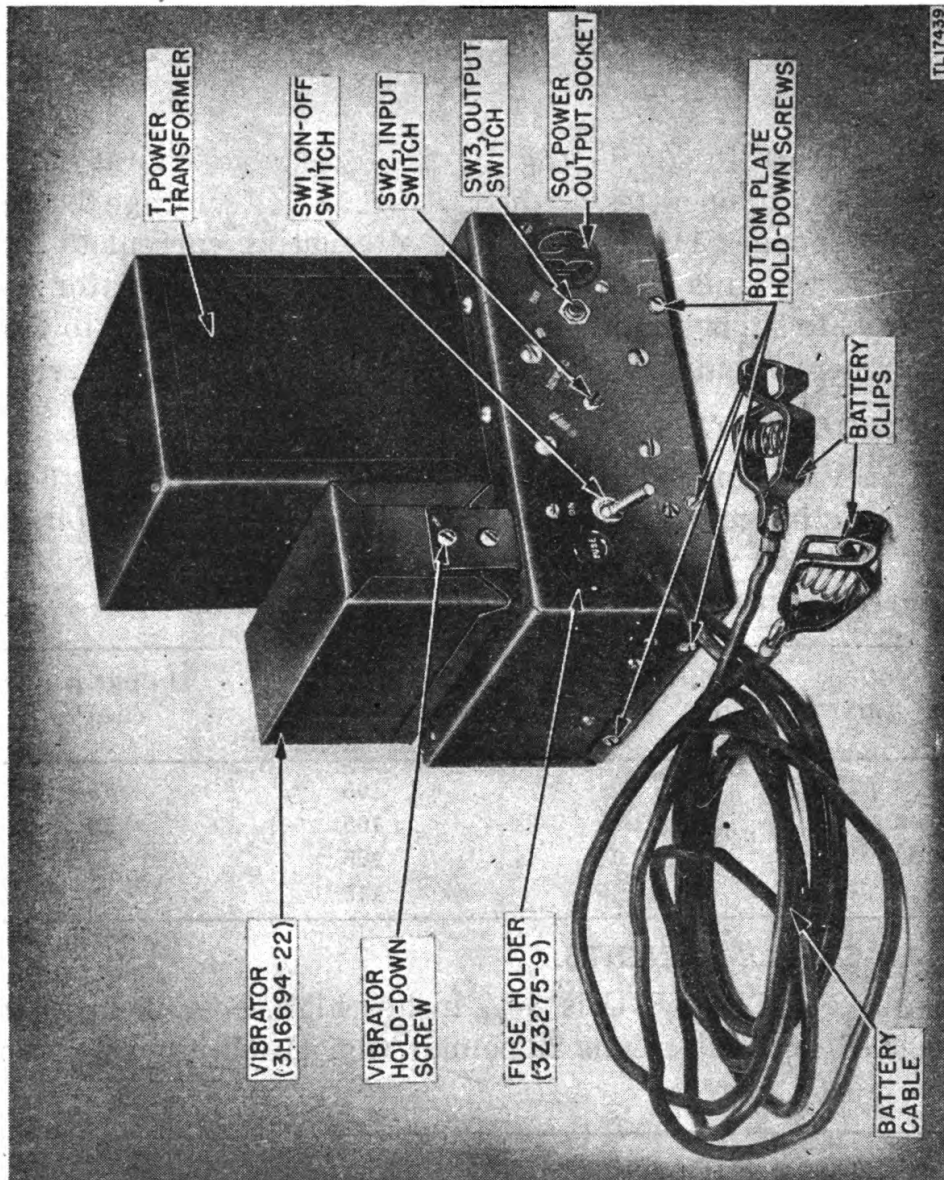

Figure 2. Vibrator Pack PP-68/U, top cover removed.
a. Chassis Assembly. The chassis assembly consists of a steel-formed housing. Mounted on top of the housing (fig. 2) are the output transformer T, the vibrator unit, and a six-prong socket for the vibrator unit. The vibrator unit is encased in a metal box which plugs into the socket and is held in place by two screws
8. CONTROLS AND THEIR USE (fig. 2).